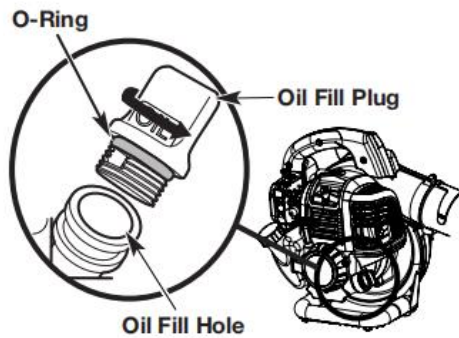

Fig. 9
- 3) Clean the area around the oil fill plug (Fig. 9) to prevent debris from entering the oil fill hole.
Note: Make sure the O-ring is in place on the oil fill plug (Fig. 9).
- 1) Clean the area around the oil fill plug (Fig. 9) to prevent debris from entering the oil fill hole.